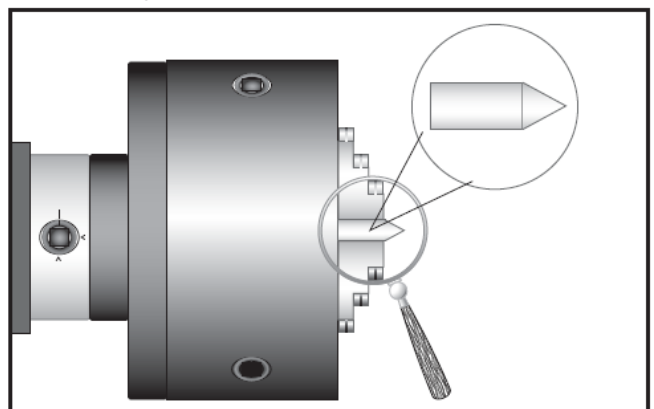

Figure 28
2. Make a dead center by turning a shoulder to make a shank. Flip the piece over in the chuck and turn a 60° point (see **Figure 28**). As long as it remains in the chuck, the point of your center will be accurate to the spindle axis.